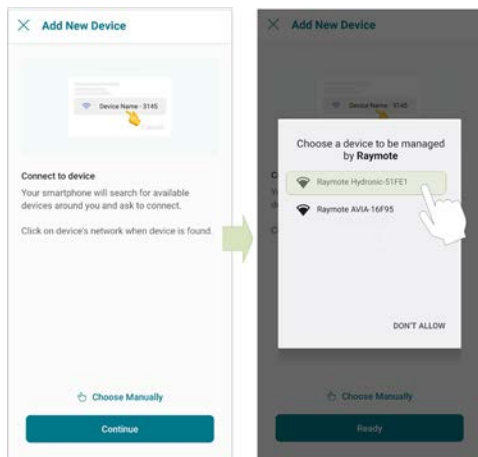

Figure 15. Connect with Android Smart Phone
2. **In Android:** Depending on your configuration, one or more devices will appear on the app. Select the HOTSPOT identifier that matches the unit's display as shown in **Figure 15**.